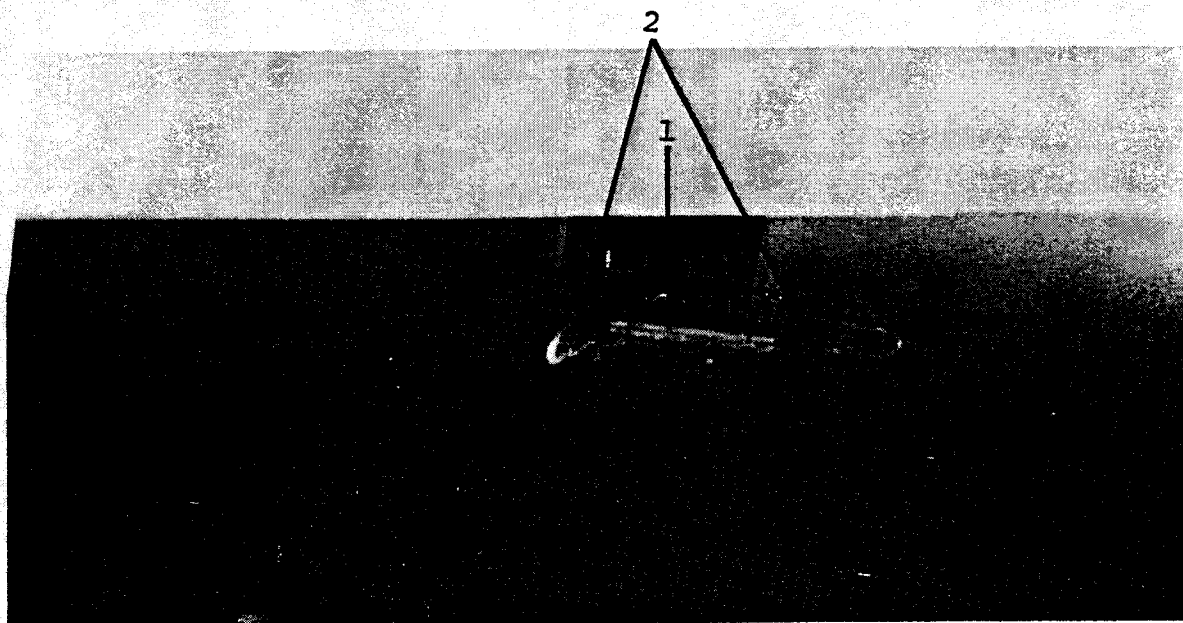

Figure 9-6. Drain Valve Control Handle Detail
8. Release spring clips from toilet valve handle. (See Figure 9-6).